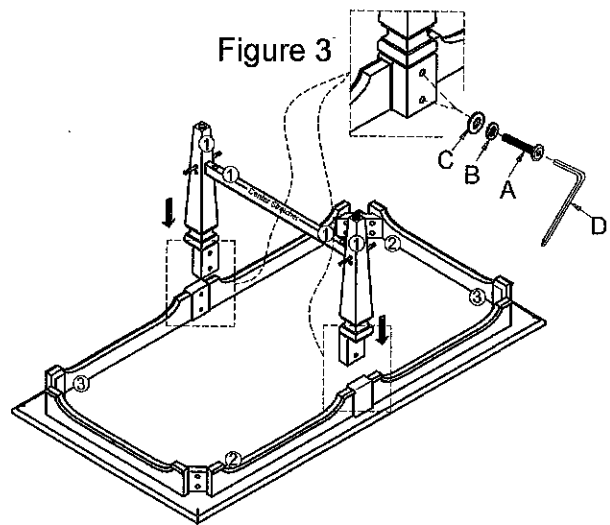

Figure 3
3. Attach frame leg of step 2 on the table using Flat washer (C), Lock Washer (B) Bolt (A) with Allen Key (D) .(See Figure 3).